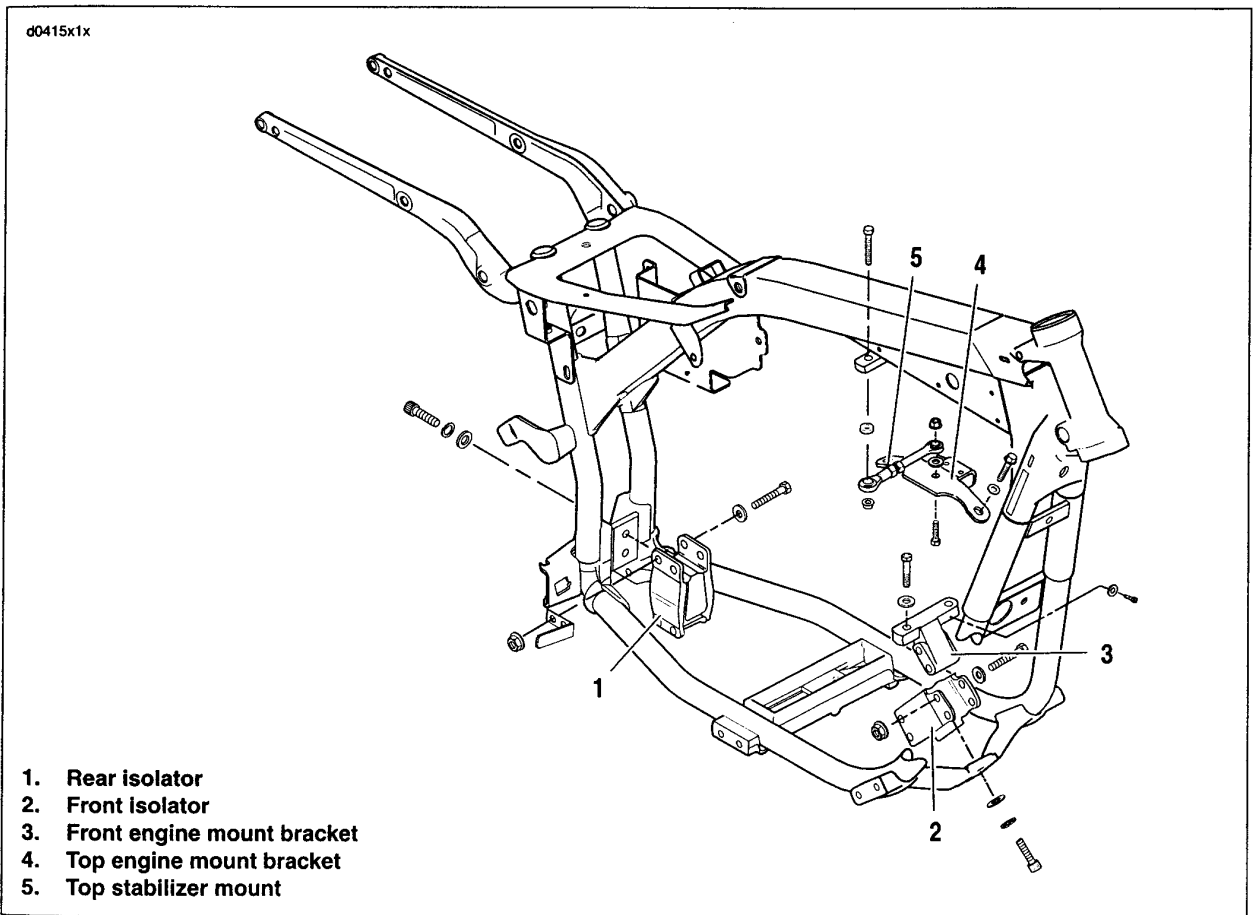

Figure 1-65. Engine Mounts
- 1. See Figure 1-65. Check for cracks or tears in the mount rubber.